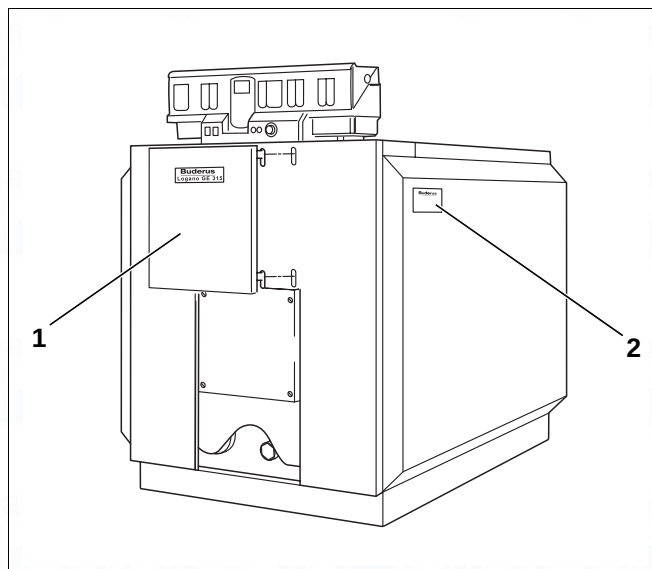

Fig. 42 Attaching the burner door panel
- ▶ Hook burner door panel into the cut-outs in the front panel (Fig. 42, [1]).
- ▶ Subject to the boiler location, affix the type plate (Fig. 42, [2]) to the right or left side panel.